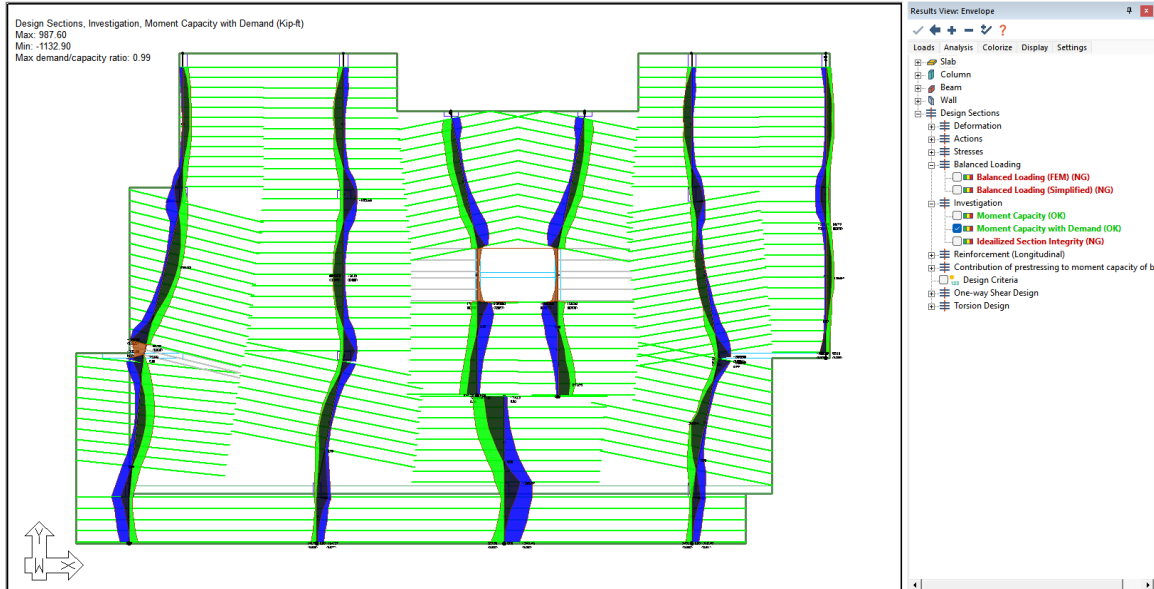

FIGURE 9-123
- Once the design is complete you should now see the Moment Capacity passing and showing **OK** for all design sections as shown in **FIGURE 9-123**.